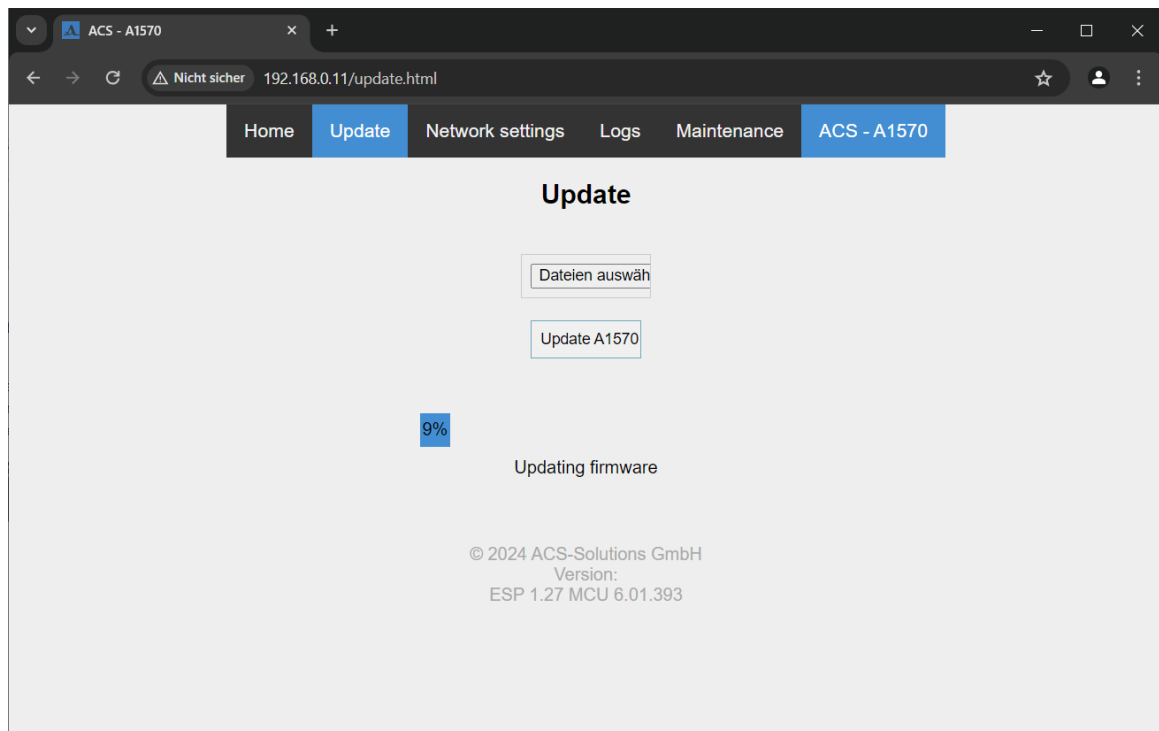

Figure 12: Updating progress
- The device will download the selected file and update its firmware. A progress bar will appear, displaying the progress of the update (see Figure 1221).